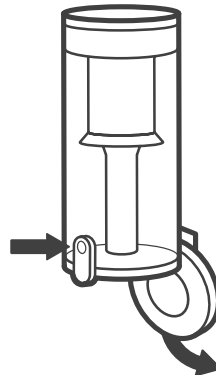

Figure 2.5
2. Hold the dust bin over a trash can and press the Lid Release Button. **[Figure 2.5]** Use caution, as the lid will open when the release button is pushed.
2. Hold the dust bin over a trash can and press the Lid Release Button. **[Figure 2.5]**